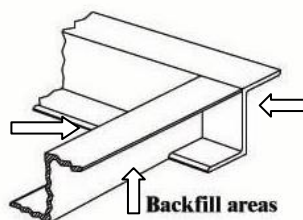

Figure 2: Concrete Fill
STEP 6: (Figure 2) Back fill around the perimeter of the Pit Frame Assembly with 3000PSI concrete. Trowel the concrete level with the scale frame and existing floor. Trowel the base of the pit level with the base of the frame with a gradient toward the centered drain, if used. Conduit and cable should be left free so cable can be easily connected to the Platform Assembly.